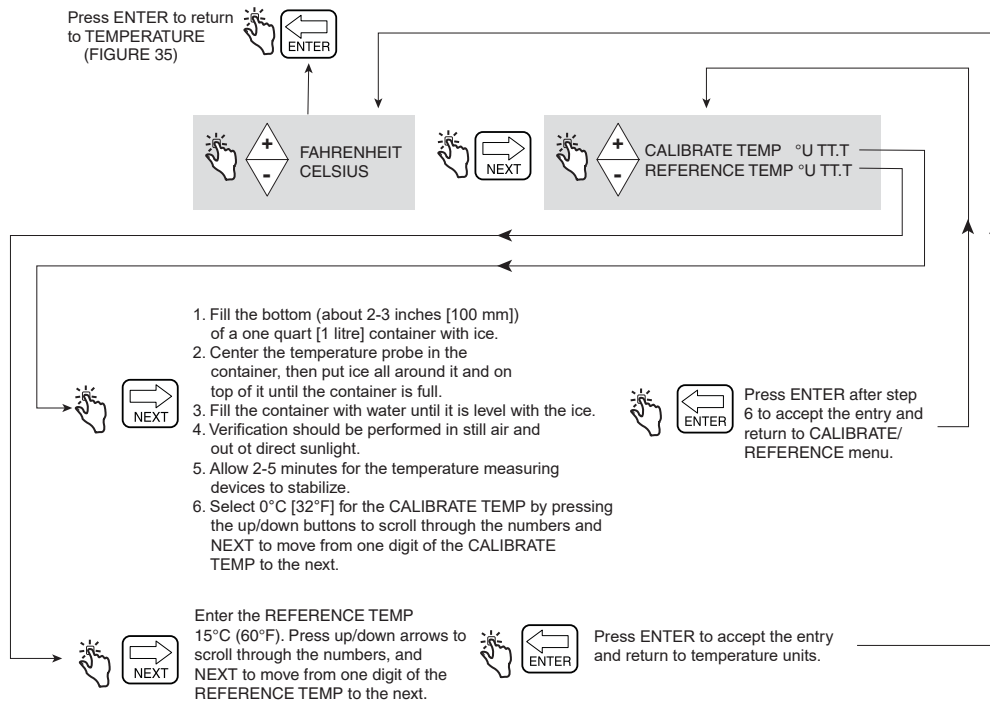

Figure 36. Temperature Calibration Setup
Figure 36 illustrates Temperature Probe Calibration setup choices.
2. The reference temperature is the temperature at which the net volume will be compensated (TC). The net volume is calculated from the gross volume adjusted for the difference between the fluid temperature and the reference temperature. To revise the reference temperature, follow the steps as shown in Figure 36, Temperature Calibration Setup. Typically the reference temperature is set to 15°C when using Celsius or 60.0°F when using Fahrenheit.